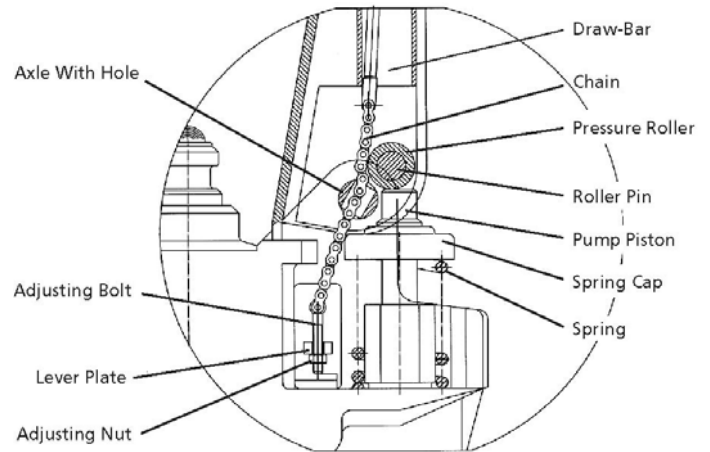
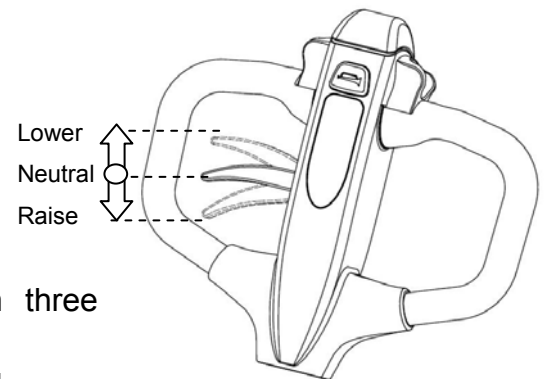

Fig. 7: Side view
Fig. 8: SPT 15 tiller
b) Set the control lever of the handle to the 'Lower' position, then pass the adjusting nut, adjusting bolt through the hole of the axle with your hand (fig. 7).
d) Set the control lever (fig. 8) of the handle to 'RAISE' position, then raise the lever plate and insert the adjusting bolt into the front slot of lever plate. Note: Keep the adjusting nut under the lever plate. (fig. 7)
The SPT 15 multifunction tiller can be regulated in three positions (fig. 8):
If necessary, you can adjust the lever according to following steps (fig. 7):